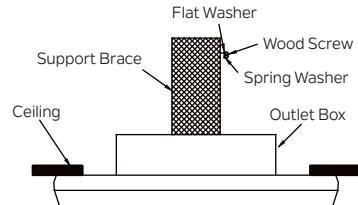

Fig. 13
**Step 1.** Drive a wood screw and washers into the side of the brace that holds the outlet box. Leave 3mm (1/8") of space between the support brace and the washer. (Fig. 13)